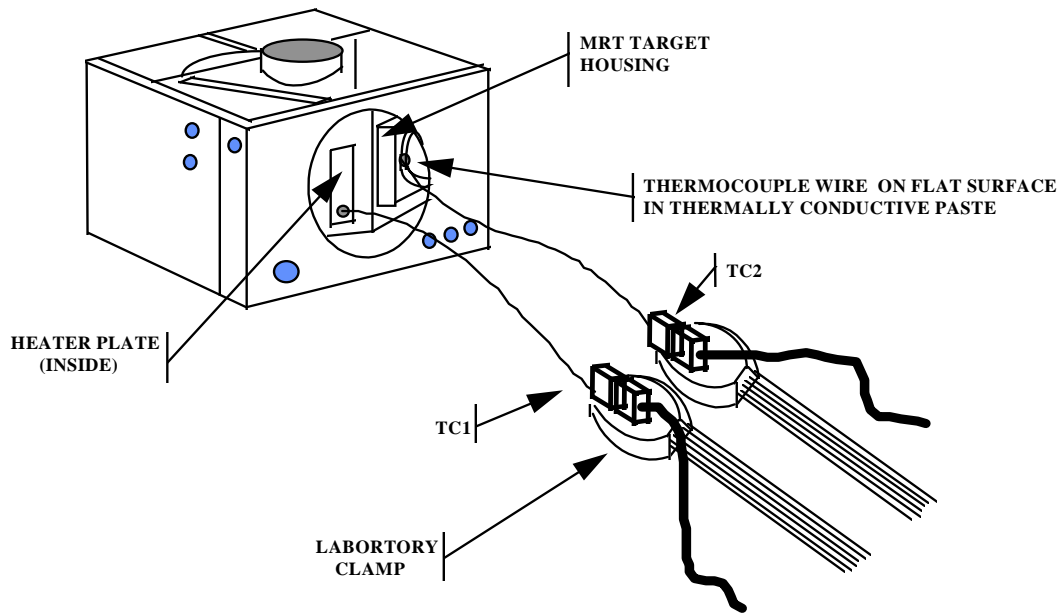

Figure 8. Repositioning TC2 thermocouple wire to MRT target housing.
(9) Daub a small amount of thermally conductive paste on left side (flat surface) of MRT TARGET HOUSING and place tip of thermocouple No. 2 (TC2) (fig. 8) in thermally conductive paste.